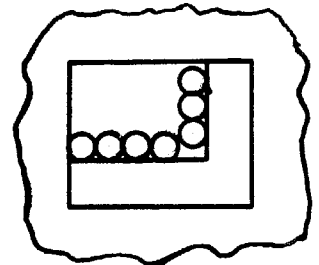

Fig. 5
6. Secure project to a large flat piece of wood and drill $3/16"$ holes on location. Fig. 5